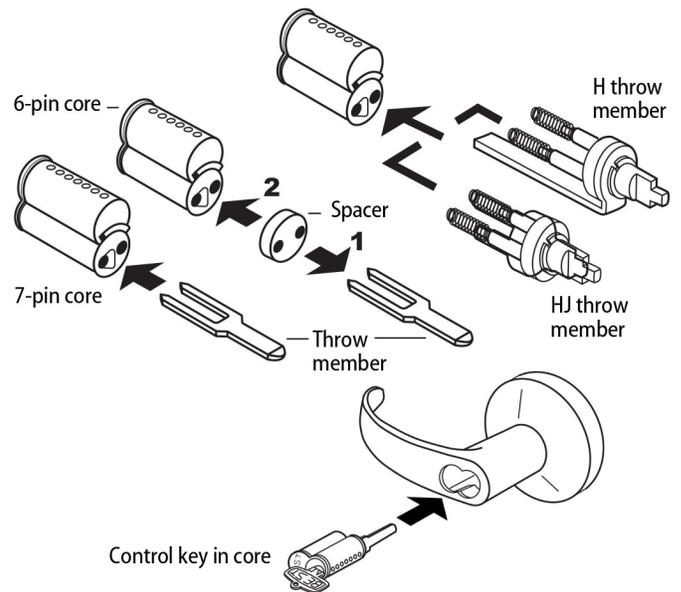

Figure 8 — Assembling and installing the core
For 6-pin core users only: Slide the spacer — supplied with your 6-pin cores — over the 7-pin throw member (see Figure 8, top).
For 'H' or 'HJ' functions only: Install the proper throw member shown in Figure 8, top right.
- Insert the throw member (or throw member and spacer) into the back of the core as shown in Figure 8, top.
- Put the control key into the core and turn the key 15 degrees clockwise.
- Put the core and throw member into the lever with the control key as shown in Figure 8, bottom.
- Turn the key 15 degrees counterclockwise and remove the key.